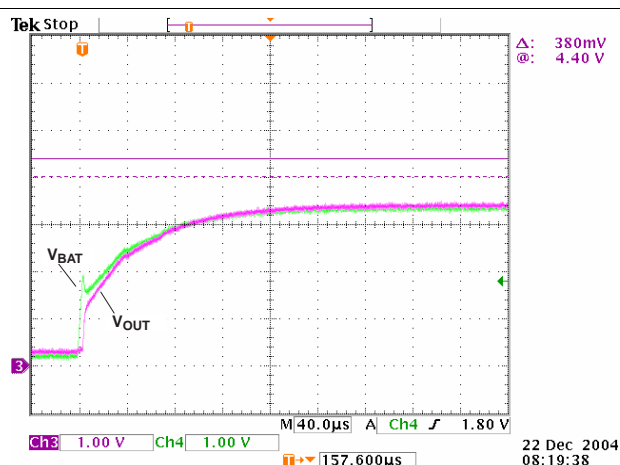

Figure 15. Insert Battery – Power-Up Output via BAT
See Figure 15 for power up by battery insertion.
**Figure 15** illustrates when a battery is inserted for power up; channel 1 (CH1) VAC = 0 V; channel 2 (CH2)  $V_{USB} = 0$  V; channel 3 (CH3)  $V_{OUT}$ ; output current,  $I_{OUT} = 0.25$  A for  $V_{OUT} > 2$  V; channel 4 (CH4)  $V_{BAT} = 3.5$  V;  $C_{(DPPM)} = 0$  pF. When there are no power sources and the battery is inserted, the output tracks the battery voltage if there is no load (<10 mA of load) on the output, as shown. If a load is present that keeps the output more than 200 mV below the battery, a short-circuit condition is declared. At this time, the load has to be removed to recover. A capacitor can be placed on the DPPM pin to delay implementing the short-circuit mode and get unrestricted (not limited) current.